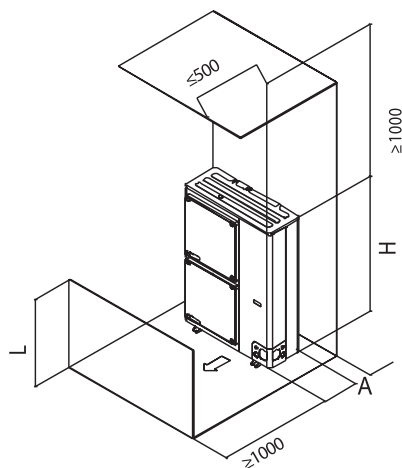

Figure 17
- a. Single unit installation (see Figure 17)